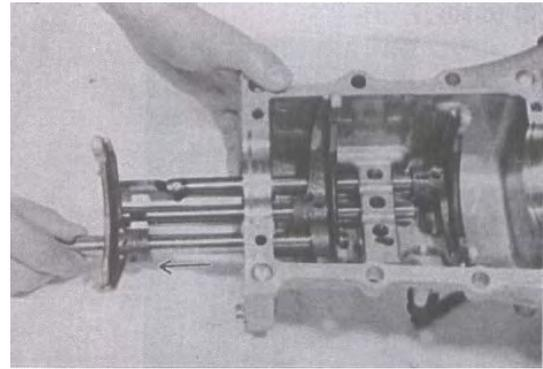

Fig 10-38
(1) Pull out reverse gear shift shaft. As this shaft comes out, locating ball and spring will jump out of hole; do not let them fly away. (FIG.10-38)
(2) Using spring pin remover (C) (special tool), drive out yoke pin on low speed gear shift fork, and pullout shift shaft. During this work, be careful not to let locating ball, interlock ball and spring fly away.